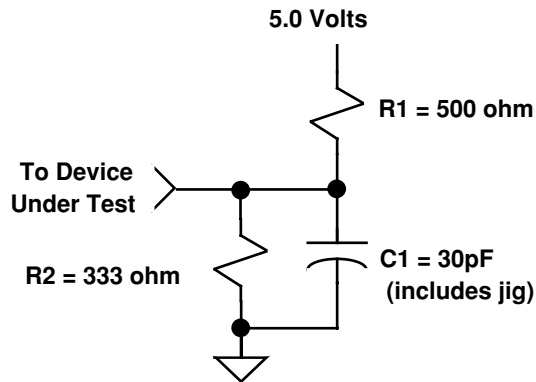

Fig.7 - AC test load
2. With load specified in Fig.7.